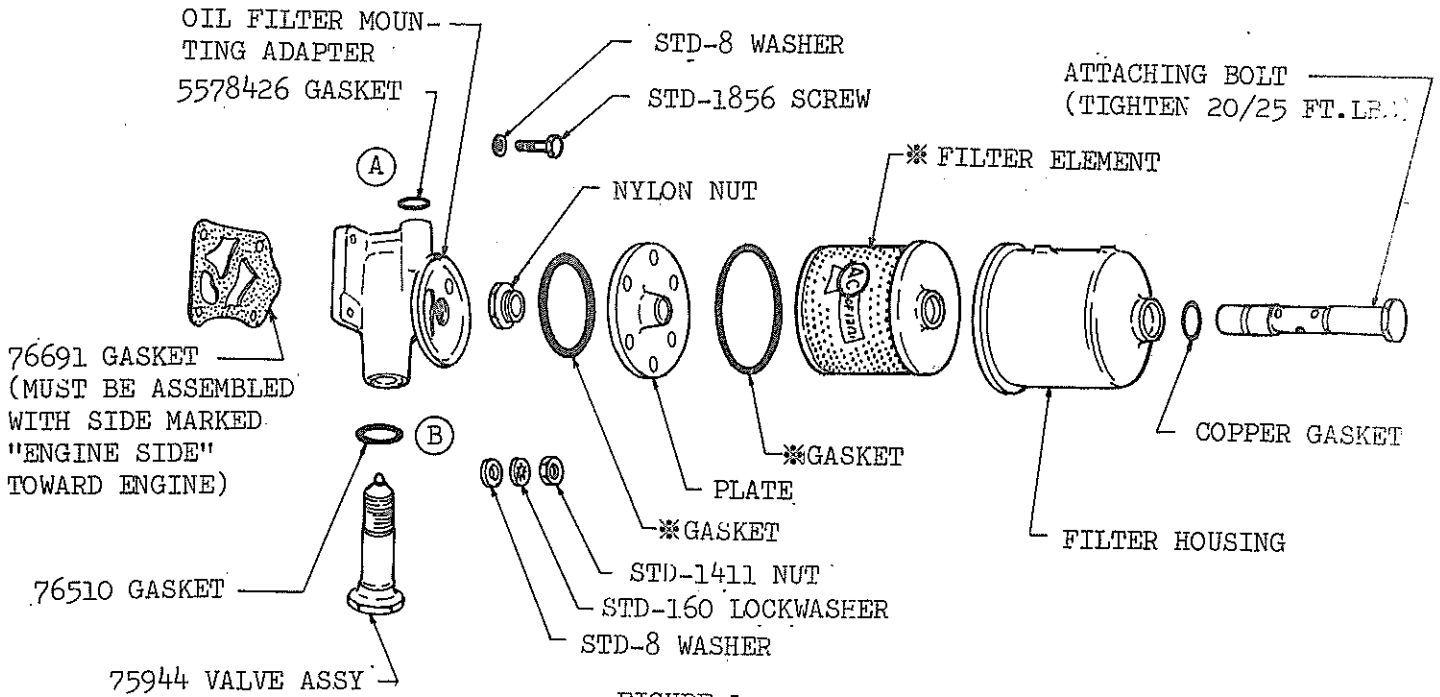

FIGURE 1
- (7) Using the three STD-1856 1/4 inch capscrews, check the depth of the tapped holes in the mounting pad by turning the capscrews into the holes by hand, as far as they will go. Measure the distance between the pad and the underside of the screws. If the distance is more than 1/8 inch, retap the hole using a 1/4-20 bottoming tap to clean the threads in the bottom of the hole.
- (8) Assemble a new adapter gasket No. 76691 (AC 6437520) on the pad on the accessory housing. Use POB or equivalent gasket sealant. Note that one side of the gasket is marked "ENGINE SIDE"; this side of the gasket must be assembled toward the engine. See figure 1.
- (9) Assemble the filter and adapter assembly No. 74911 (AC 5378770) on the accessory mounting pad and secure it with a STD-8 plain washer, STD-160 internal tooth lockwasher and STD-1411 nut over the stud in the lower left corner of the mounting pad. (If there is not enough clearance between the end of the stud and the adapter to install the nut, remove the adapter assembly and drive the stud one additional turn.) Also, after tightening nut, make sure end of stud does not interfere with adapter.
- (10) Use three No. STD-1856 (equivalent to AC 6437521) self-locking bolts to attach the adapter to the mounting pad. Use STD-8 (AC 6437523) plate washers between the adapter and the lockwasher on the bolt.
- (11) Tighten the bolts and nut installed in step (9) and (10) to 75 inch pounds torque.
- (12) If the filter housing is not assembled on the adapter, proceed as follows: Make sure the adapter gasket and housing gasket are correctly seated, then check the nylon nut. The nut should be snugly seated against the cover plate by finger-tightening. The nylon nut must not protrude above the metal surface of the cover plate.
- (13) Tighten the attaching bolt with 20 to 25 foot pounds torque. Lockwire the bolt through the loop on the side of the housing.
- (14) Using AC 5578426 gasket, install the oil temperature bulb and adapter removed in the above step (4) at the location "A" shown in figure 1. Secure with lockwire.
- (15) The by-pass valve P/N 75944, removed in the above step (4), must be assembled at the location "B" shown in figure 1. Secure with lockwire.